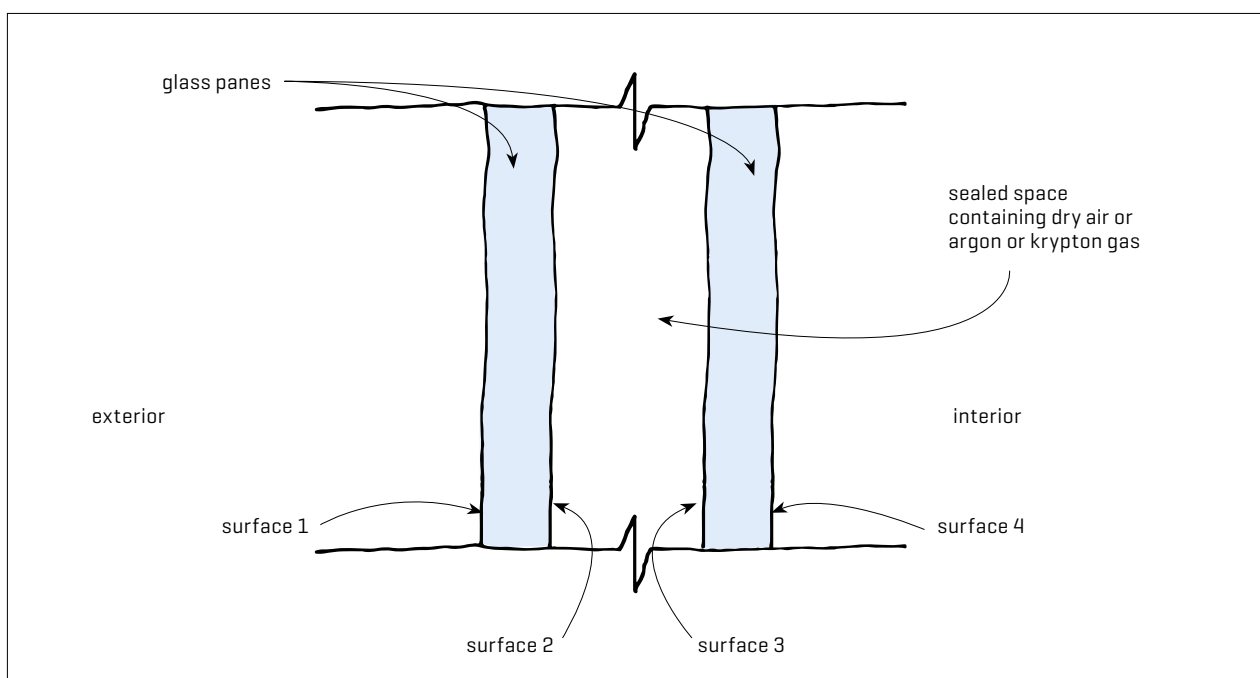

Figure 1. Surfaces of an IGU.
**2.0.6** Coatings are applied to different surfaces depending on requirements. Reflective coatings are typically applied to the outside surface. Low-E coatings perform best when used in insulating glass units (IGUs) and should be on an inside surface where they are protected from possible damage [Figure 1].